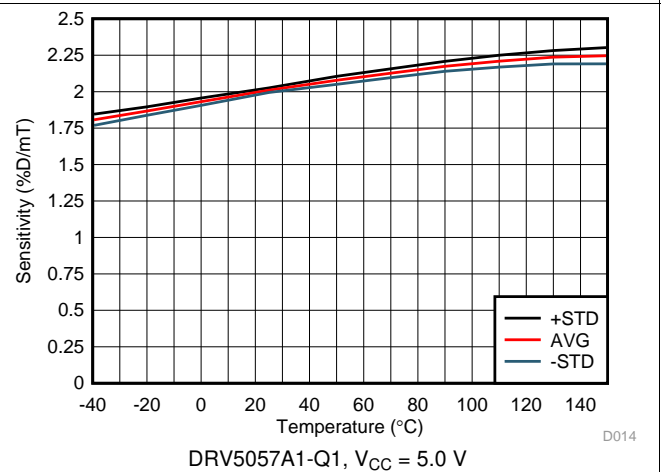

Figure 4. Sensitivity vs Temperature
(1) This unit is a percentage of duty cycle.
(2) B is the applied magnetic flux density.
(3) See the Sensitivity Linearity section.
(5)  $S_{TC}$  describes the rate the device increases Sensitivity with temperature. For more information, see the Sensitivity Temperature Compensation for Magnets section and Figure 4 to Figure 11.